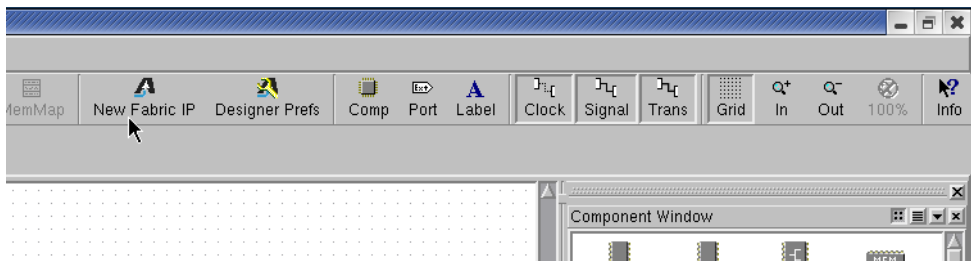

Figure 5-2 New Fabric IP selection
1. Click on the **New Fabric IP** button on the Main Toolbar, as Figure 5-2 shows. This opens the Configure new PrimeCell IP dialog box.